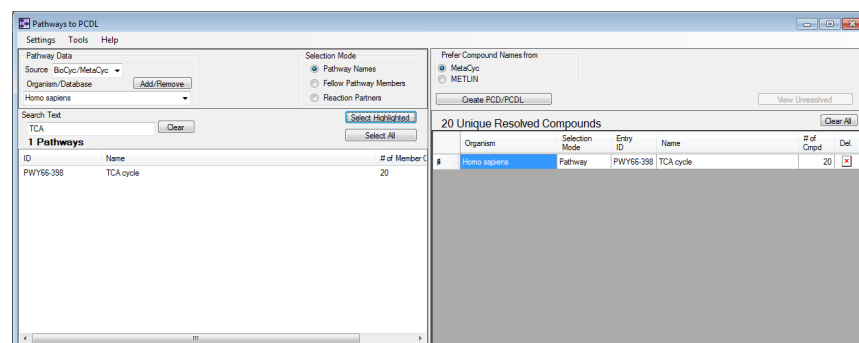
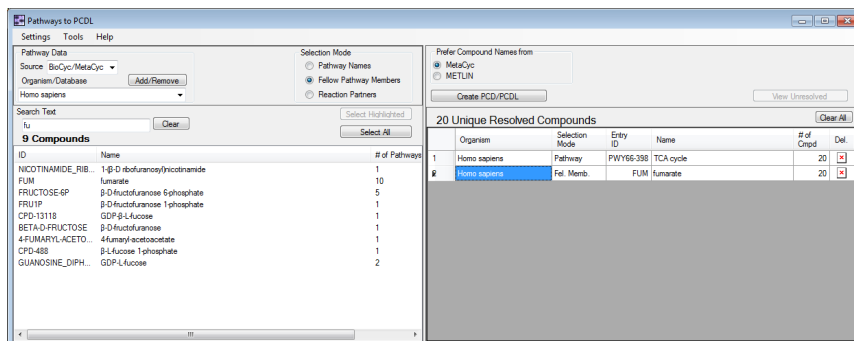

Figure 15 TCA cycle pathway selected for the personal compound database
Figure 18 TCA cycle pathway selected twice for the personal compound database
- d Review the updated list of pathways in the display pane (Figure 15). The number of pathways in this example is reduced to a single pathway.
- h Review the updated list of pathways in the display pane (**Figure 18** on page 24).
Note: Because a selected pathway is described by the means that it was selected “TCA cycle” is not listed twice in the **Selected Pathways List**. You can tell the same pathway was added since the table heading remains unchanged, stating “20 Unique Resolved Compounds,” compare **Figure 15** on page 22 and **Figure 18** on page 24.
- The pathways to create your personal compound database reverted back to just the TCA cycle as shown in Figure 18 on page 24.